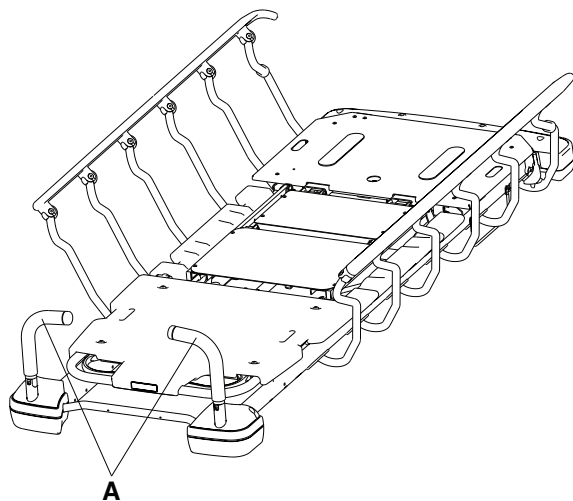

Figure 11 – Positioning the head end push handles
1. Pivot the handles (A) up from the head end of the product (Figure 11).